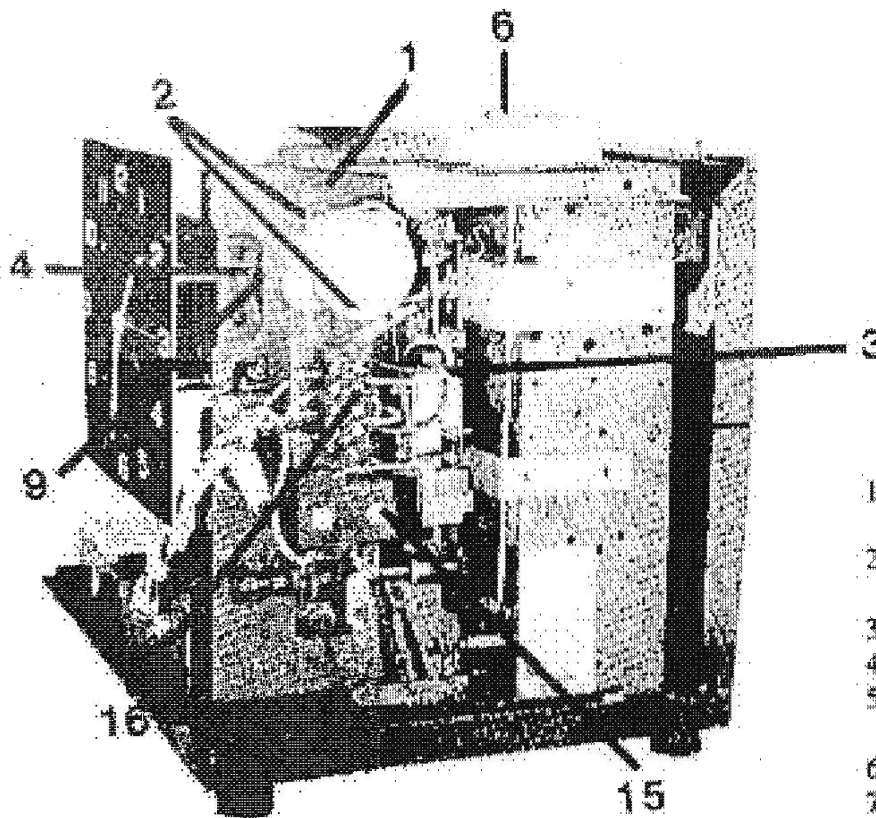

Figure 1
The following reference points are located on figures 1 & 2.
9. Check that synchronized type wheels and clock face show correct time. If they do not, turn the Main Setting Wheel (Figure 1, 4) until the recorder displays the correct time.
2. Rotate Main Setting Wheel (Figure 1, 4) until the Tenths Wheel clicks over from "9" to "0".
3. Locate and press the Type Section Unlocking Latch (Figure 1, 1) with one hand and swing the type section out with the other.
4. Observe the wiring of the motor into the Motor Terminal Block (Figure 1, 16). Disconnect the motor wires from the terminals.
5. Remove Motor Drive Clutch (Figure 1, 9) from motor shaft by rotating clockwise.